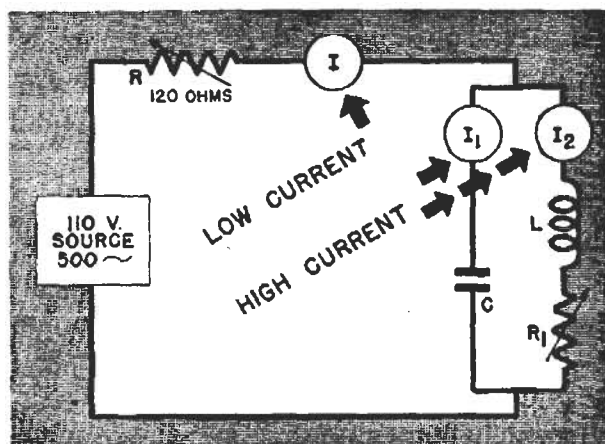
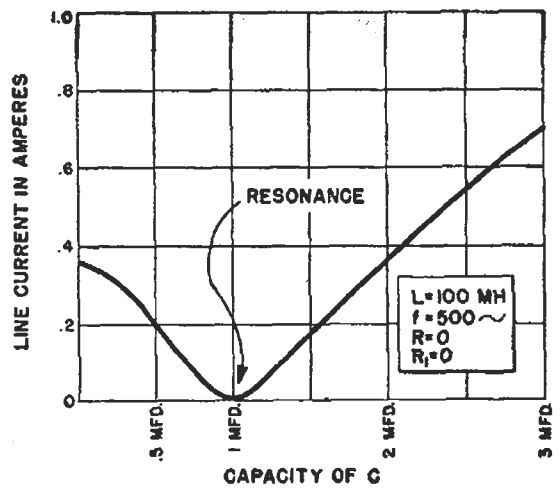

FIG. 9. Resistance within the resonant circuit ( $R_1$ ) reduces the current step-up.
FIG. 10. This graph tells how the line current changes when the capacity of the condenser ( $C$ ) in a parallel resonant circuit is varied.
**Varying the Coil Resistance.** Since all coils have a certain amount of resistance acting in series with their inductance, let us see how increases in this resistance affect a parallel resonant circuit. Instead of analyzing circuits using coils with the same inductance and various values of resistance, let us assume a circuit like that in Fig. 9, where we have a rheostat  $R_1$  in series with our coil. If we were to start with  $R_1$  at zero resistance, then increase it gradually, we would find that the coil current goes down only a little, the condenser current remains the same, but the line current goes up. This means that when the resistance in series with the coil in a parallel resonant circuit is increased, the *resonant resistance of the L-C cir-*
**Varying  $C$ .** With the parallel resonant circuit in Fig. 9 tuned to resonance and both  $R$  and  $R_1$  at their zero resistance settings, let us see what effect varying  $C$  would have on the line current while the source frequency is kept constant at 500 cycles. Fig. 10, in which the line current is plotted for various values of capacity, shows the result we would get.
**Varying Frequency.** Now suppose we see what would happen in the circuit shown in Fig. 9 if we were to set both  $R$  and  $R_1$  to zero resistance and vary the frequency of the source without changing its voltage or the coil and condenser values. Suppose we start with a very low frequency (less than one cycle per second). This is very nearly the equivalent of direct current, and you know that  $C$  will act as an open circuit (very high reactance), while  $L$  will act as a short (very low reactance). This means that a very high current will flow through the coil and ammeters  $I_1$  and  $I_2$ .
**Varying Both L and C.** If we were to insert various values of  $L$  in Fig. 9 and use the correct values of  $C$  to give resonance at 500 cycles, we would find in each case that the same number is obtained by multiplying together the values of  $L$  and  $C$ . In other words, the product  $L-C$  is a constant for a given frequency, just as it was for series resonant circuits. Furthermore, it is the *same* number as the  $L-C$  value for series resonance. Also, the formula for determining the resonant frequency when  $L$  and  $C$  are known (already given you in a previous footnote) applies to parallel resonant circuits as well as series resonant circuits.